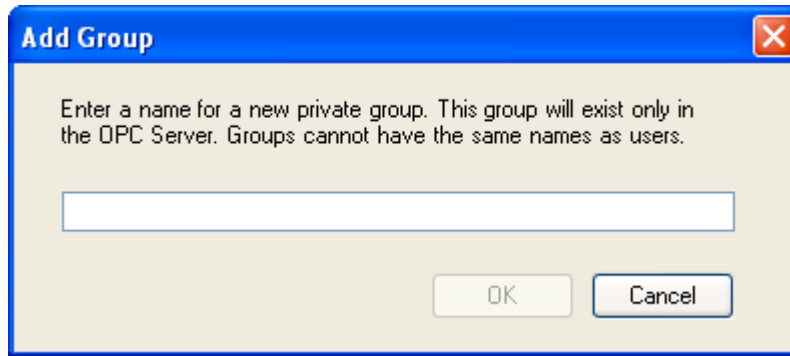

Figure 83 - Add New Group Window
2. The **Add New Group** window (Figure 83) appears.